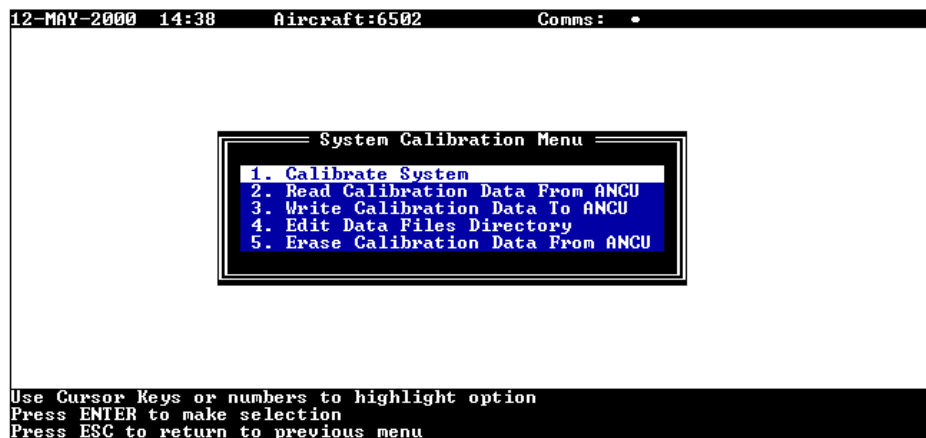

Figure 3.26 – 'System Calibration Menu'
- (1) System Calibration Menu
- (a) Select 'System Calibration Menu' from the 'Main Menu' and press <ENTER>. The 'System Calibration Menu' will be shown on the MT display (Ref. Figure 3.26).